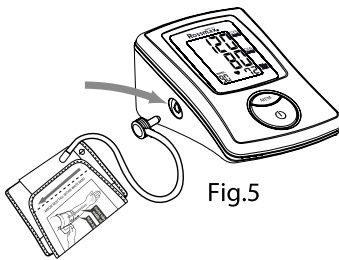

Fig.5
- Plug in the cuff connecting tube into the unit. (Fig. 5)